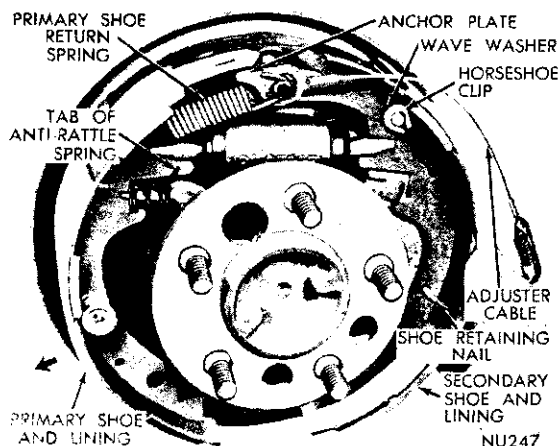

Fig. 10—Installing Brake Shoes (Left Rear)
(4) Slide primary shoe into position and engage with push rod (if so equipped), and free end of strut. Install anchor plate over anchor, then install eye of adjuster cable over anchor. (Fig. 10).